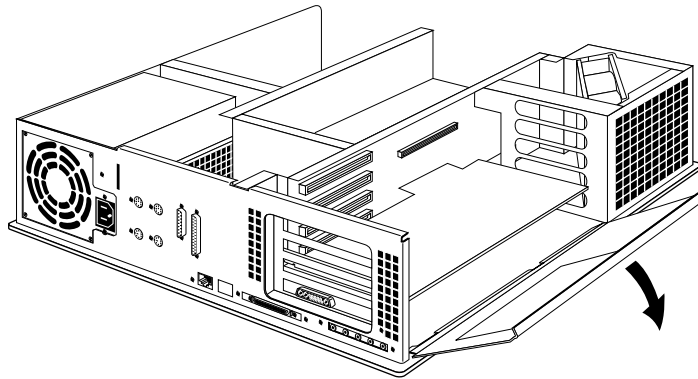

Figure 1-7 Opening the Metal Panel in Front of the Expansion Slots
1. Move the system or position yourself so that you are facing the expansion slots, as shown in Figure 1-7.